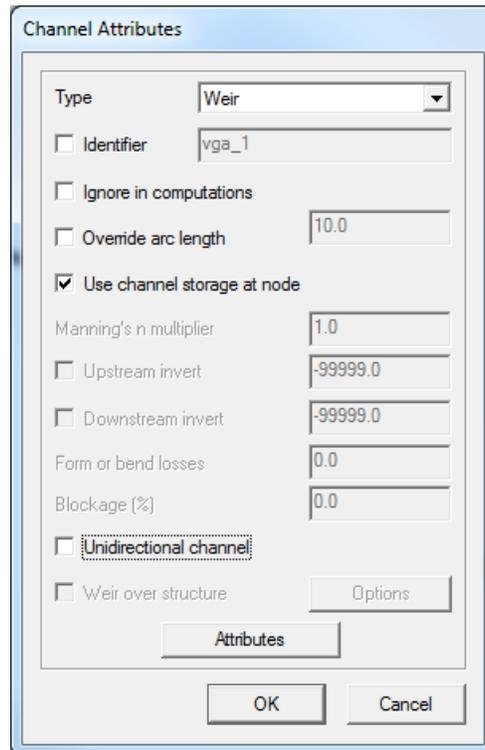

Figure 7 Channel Attributes Dialog
3. Change the type to *Weir* and click on the button labeled *Attributes* at the bottom of the dialog. The dialog should look like Figure 7.